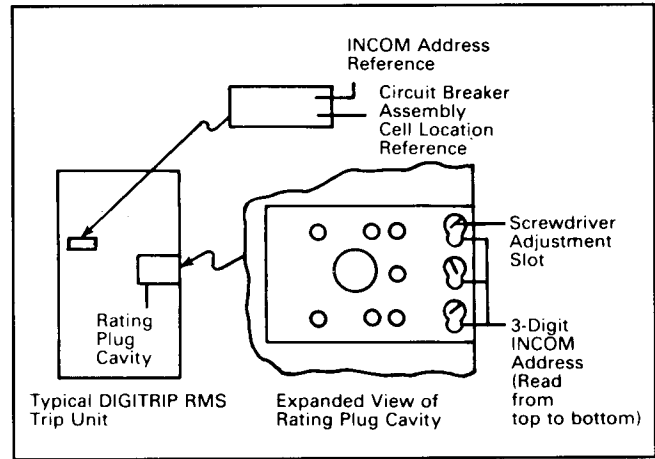

Figure 5.5 — INCOM Address System
5.4 Address System — To enable the individual monitoring of multiple circuit breakers, each Digitrip RMS 700, 800, 810 and 910 trip unit is equipped with an adjustable address register. As shown in Figure 5.5, the three-digit INCOM address register is located at the right side of the rating plug cavity on the Digitrip RMS trip unit. It is accessible only when the rating plug is removed.
As indicated in Figure 5.5, each trip unit is provided with a space on the front face for marking the selected INCOM address and cell designation in which the circuit breaker is installed. It is recommended that these spaces be properly utilized.